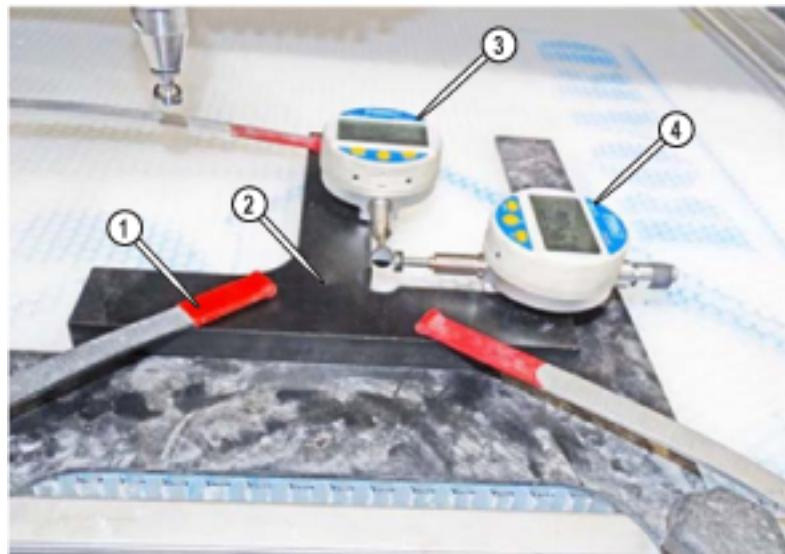

Figure 15
8. Place the **indicator holder assembly** onto the **tank slats**. See (Figure 14) for an example of OMAX/ MAXIEM fixturing. See (Figure 15) for an example of MicroMAX fixturing.